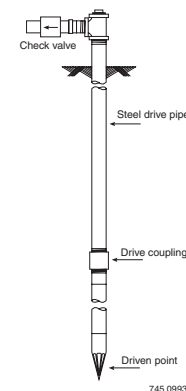

FIGURE 2 – DRIVEN POINT INSTALLATION
1. Connect the suction pipe to the drive point (Figure 2). Keep horizontal pipe run as short as possible. Use PTFE pipe thread sealant tape on male pipe threads. Multiple well points may be necessary to provide sufficient water to pump.
2. To aid priming with well point installations, install a check valve as shown in Figure 2. Ensure the check valve's flow arrow point toward the pump.